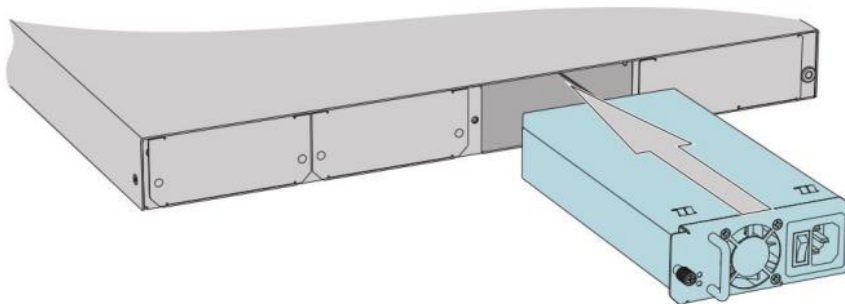

Figure 26: Installing the power module
- ☐ Put the power module into the power module slot of the device. See Figure 26.